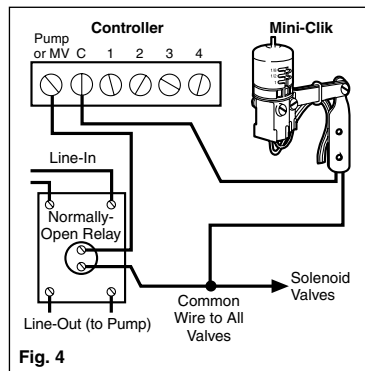

Fig. 4
B. 24 Volt Solenoid Valves with Booster Pump (See Fig. 4)